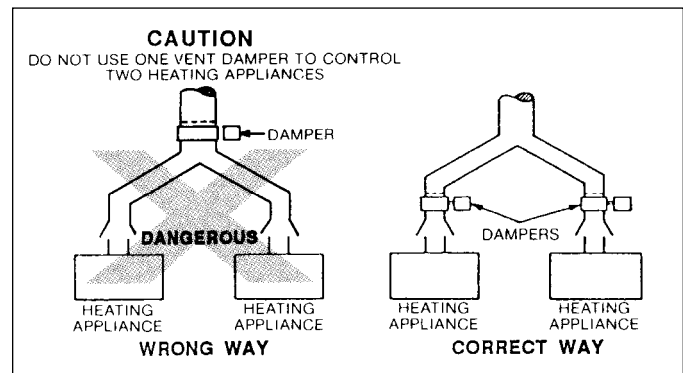

Figure 5.
7. This device must be located in a venting system or section of a venting system so that it serves only the single appliance for which it is installed. (See fig. 5.)